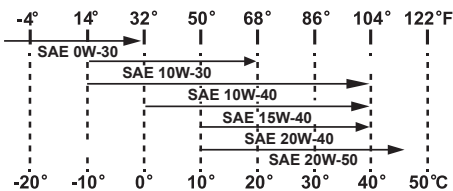

Figure 5-12
4. See Figure 5-12 for oil recommendations.